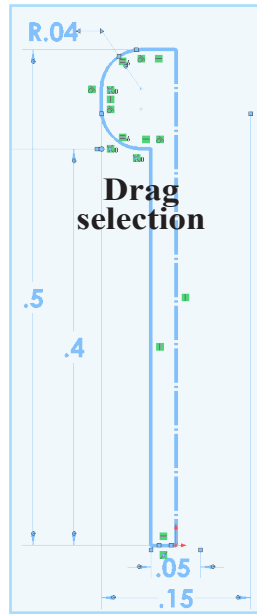

Fig. 7
Step 9. **Drag selection** around the sketch to select all lines, **Fig. 7**. To drag selection, click above and to left of sketch and drag down and to right to drag around all.